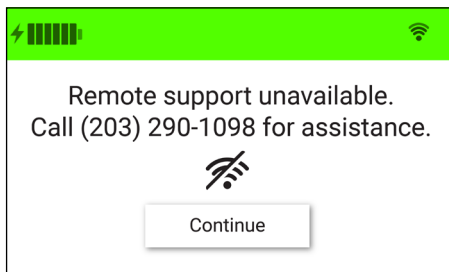

Figure 17. WIFI Connection Lost
2. If the Guardian System is unable to connect to WIFI after previously being connected to WIFI the "WiFi connection lost" alert will display. This means that the remote support is unavailable. Please contact TurnCare at (203) 290-1098. (Fig.17)